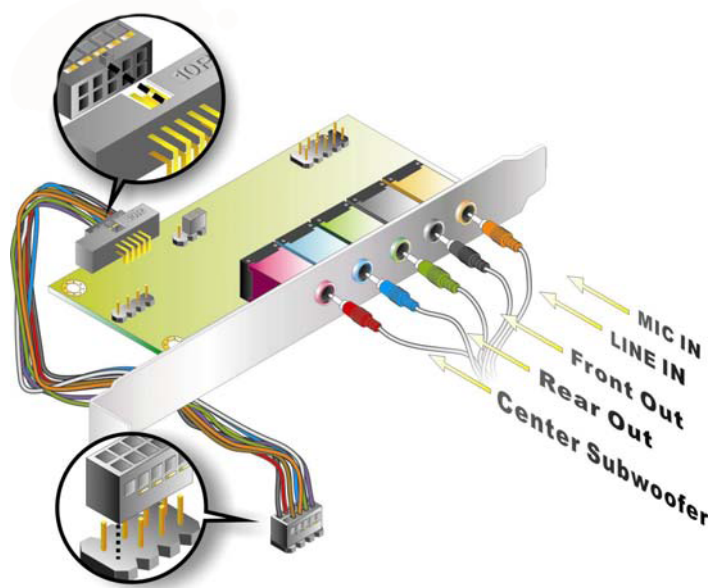

Figure 5-14: 7.1 Channel Audio Kit
Step 3: Align pin 1. Align pin 1 on the on-board connector with pin 1 on the audio kit cable connector. Pin 1 on the audio kit cable connector is indicated with a white dot. See **Figure 5-14**.